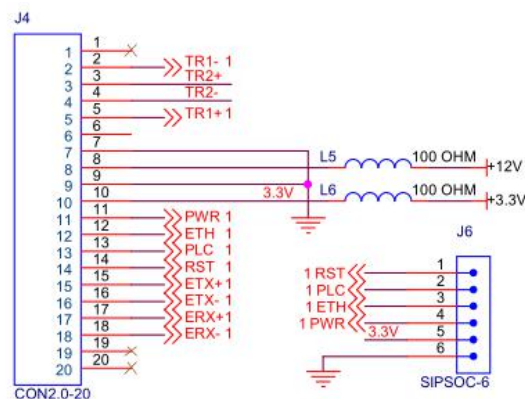

Figure 5: LX200V30 backplane LX-PB interface diagram
- 1) LX200V30 backplane WisPLC PRO interface circuit, i.e., interface circuit connecting with the LX200V30 module interface, as shown in Figure 5: